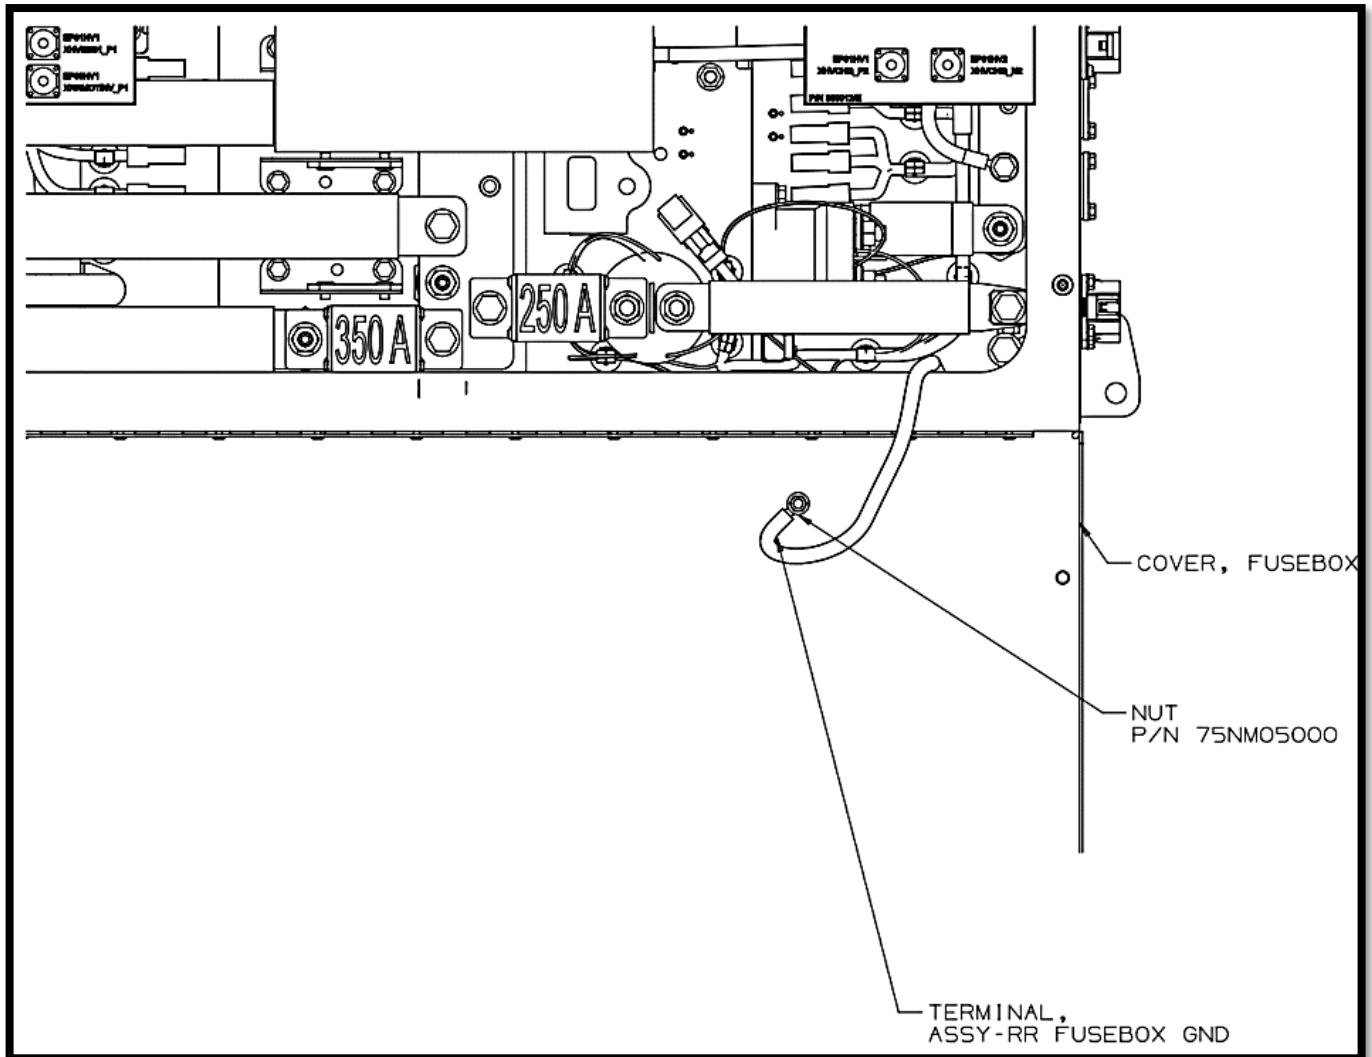

Figure 3 - Ground connection to box cover
- 2.8. Loosen the nut P/N 75NM05000 on the cover end of ASSY-RR FUSEBOX GND. Re-orient the terminal of the ground wire so that it is at 45 deg with the horizontal/bottom of the box as shown in figure 3. Tighten and torque nut P/N 75NM05000 to 3.7 n-m (32 in-lbs).